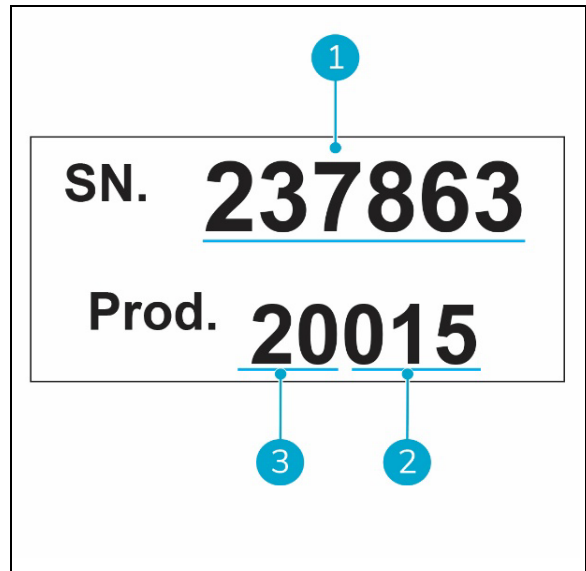

Figure 3
- Serial number (Figure 3, pos. 1).
- Production day (Figure 3, pos. 2).
- Production year (Figure 3, pos. 3).